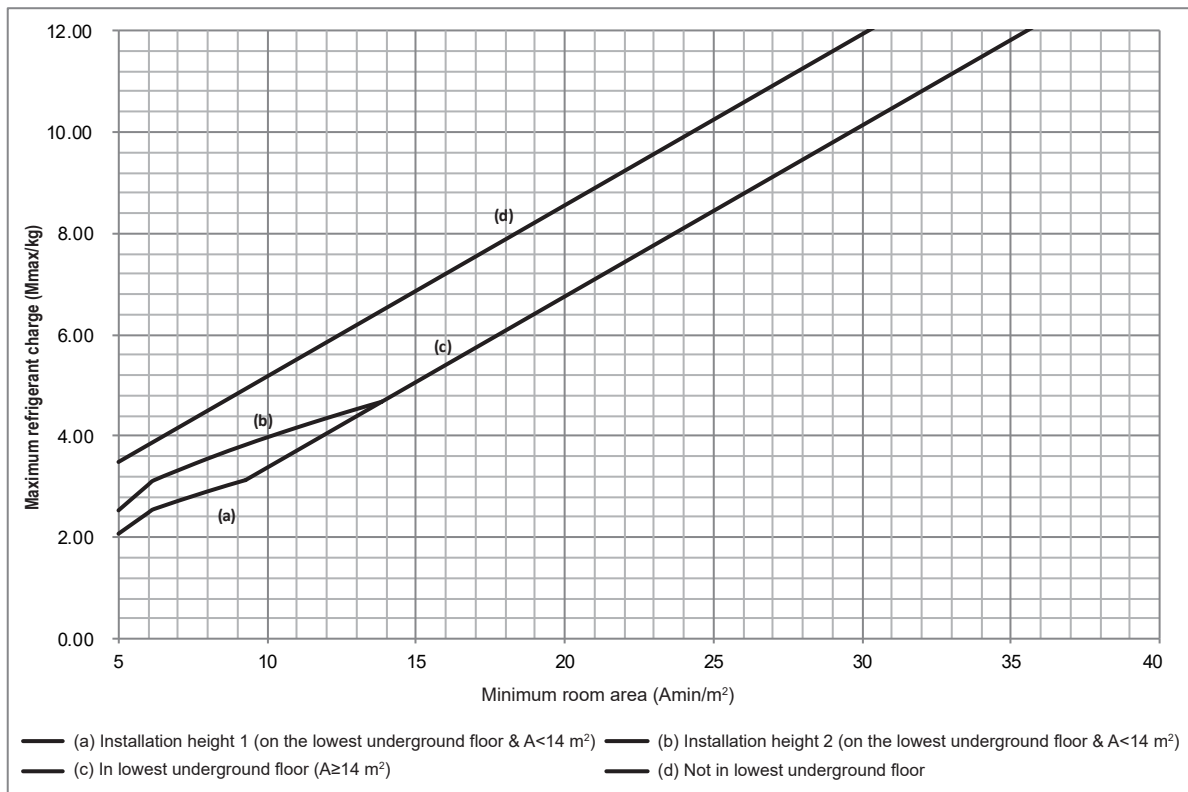
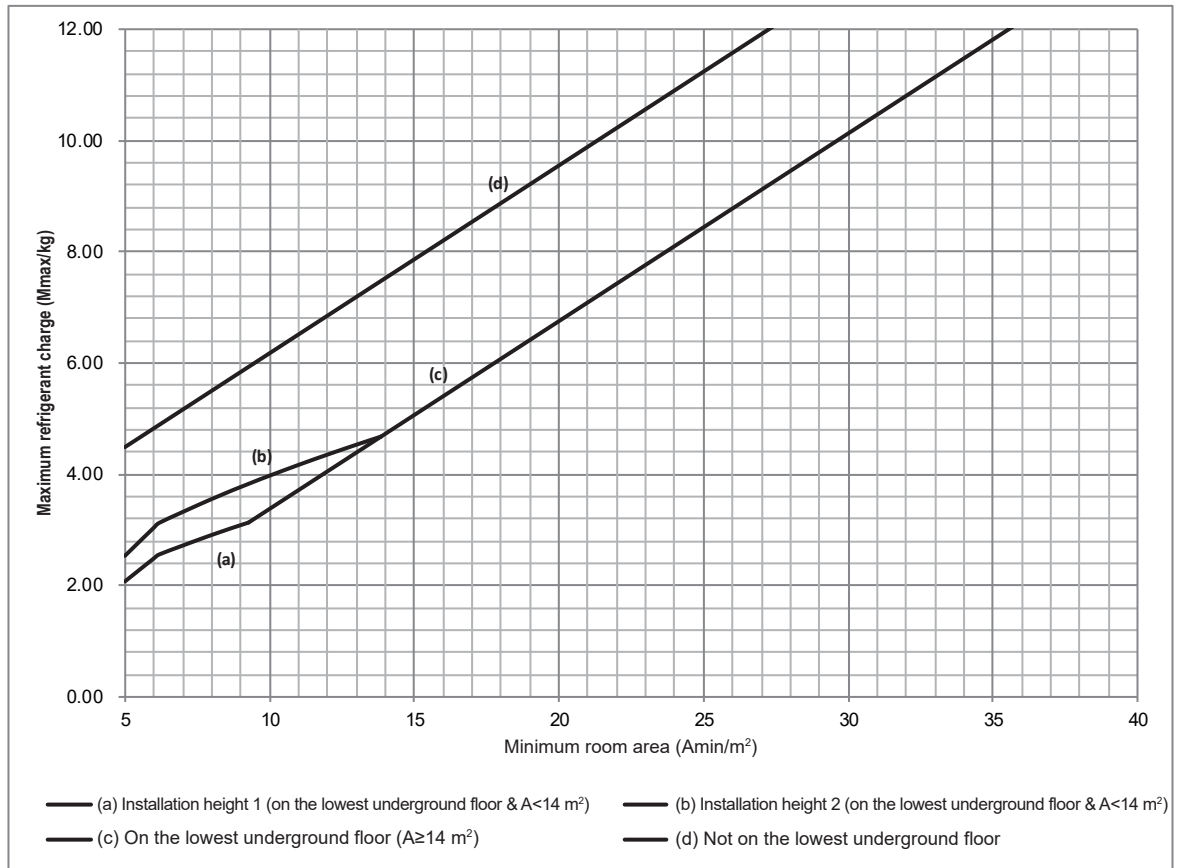

Figure 1-4
Figure 1-5
If the system is equipped with a factory refrigerant shut-off device on the outdoor unit main pipe and an alarm device connected to the indoor unit, further rules regarding refrigerant charge and room area can be followed. Figure 1-4 and Table 1-4 is suitable for 8-10 kW and Figure 1-5 and Table 1-5 is suitable for 12-18kW.
- If the system applies to case (d) in Figure 1-4 and Table 1-4 or Figure 1-5 and Table 1-5, the minimum room area for a 8-10 kW outdoor unit must not be less than 7 m² and the minimum room area for a 12-18 kW outdoor unit must not be less than 10 m².